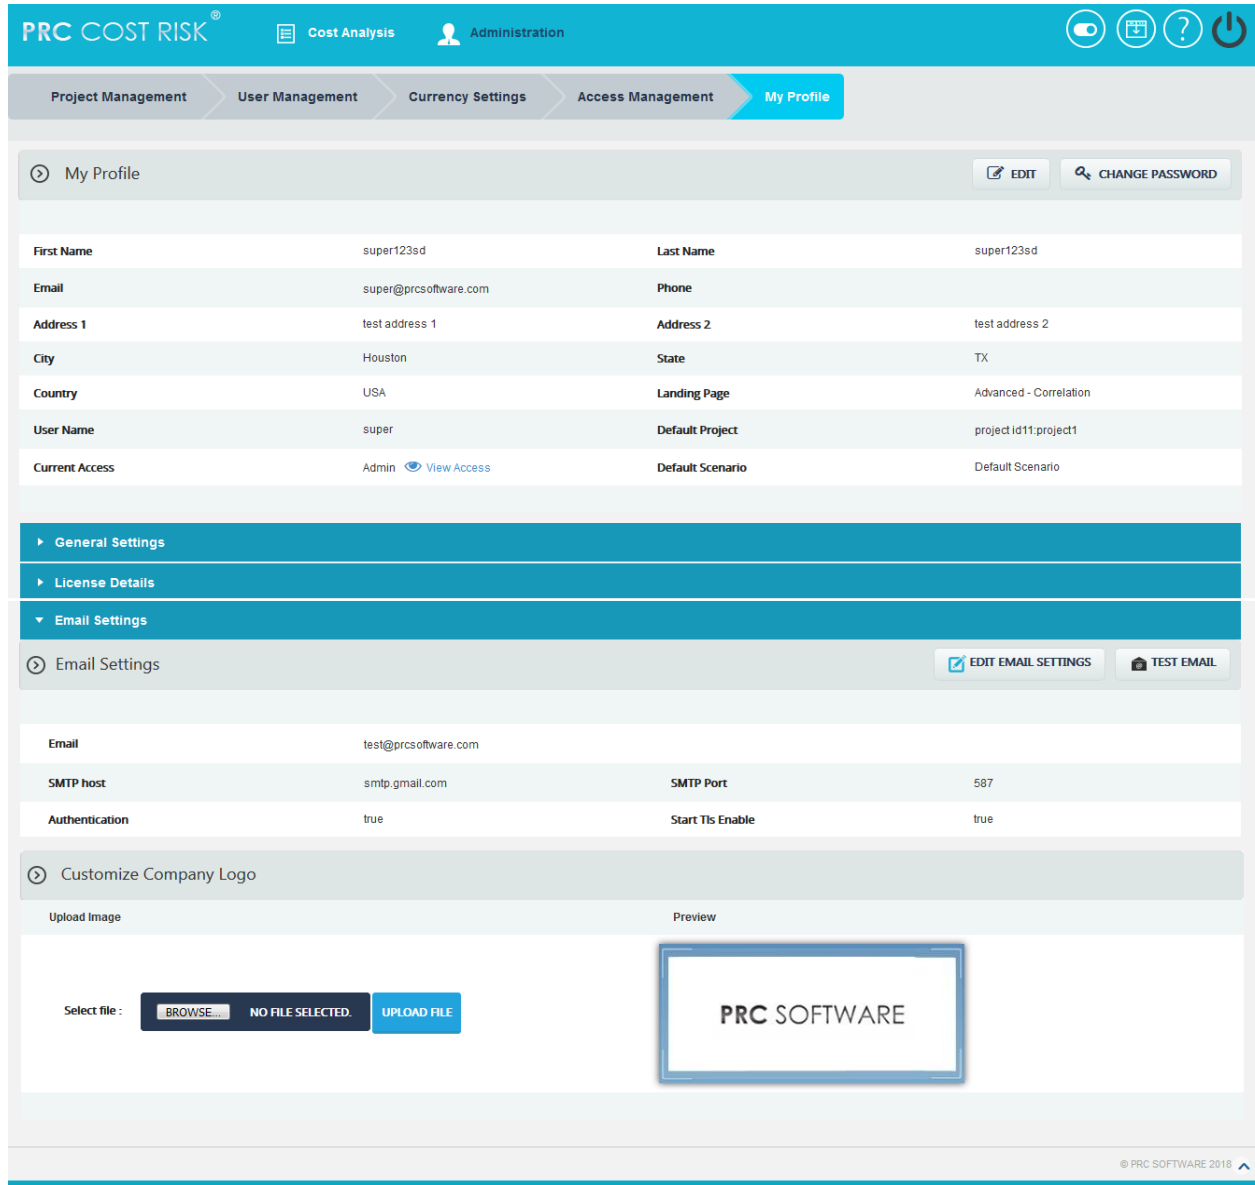

Figure 1.18
2. Click the **EDIT** button. (Figure 1.18)
This functionality is used to view the accesses assigned to the user. To view the access, click **View Access**. (Figure 1.18) A pop up appears which shows the accesses for each page. (Figure 1.20)
2. Click the **CHANGE PASSWORD** button. (Figure 1.18) A pop up appears. (Figure 1.21)
2. Click the **EDIT EMAIL SETTINGS** button. (Figure 1.18)
2. Click the **Choose File** button. (Figure 1.18)